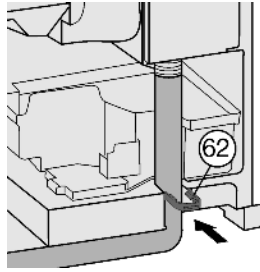

Fig. 11\*
- ▶ Fit the locking clip Fig. 11 (62).\*